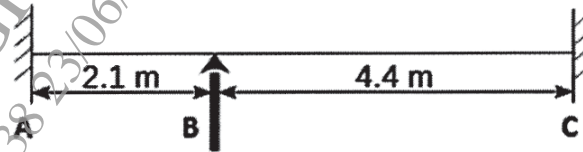

Fig. 2
- Q4)** Design the beam A-B-C shown in Fig. 2. The load on the beam may be considered as 12 kN/m . Design the beam using M-20 grade concrete and Fe-500 grade of steel. Sketch the details of reinforcement. [18]